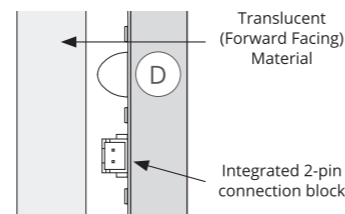

Figure 5
Rated for 400 lbs each, the domed protective bumpers (D) included with each Light Sheet have been engineered to bear the weight of translucent materials in horizontal applications and act as a safeguard in vertical applications so that the forward facing material does not harm the Light Sheet's integrated connection blocks or LEDs. We recommend using eight bumpers per Light Sheet (approximately six per square foot), spacing them evenly to distribute the weight of the forward facing material (see Figure 4) and to add a level of protection in vertical applications when the forward facing material will be positioned near the Light Sheet (see Figure 5). A rigid, non-deforming mounting surface/substrate must be used with any weight-bearing applications to avoid damaging the Auragami Light Sheet.